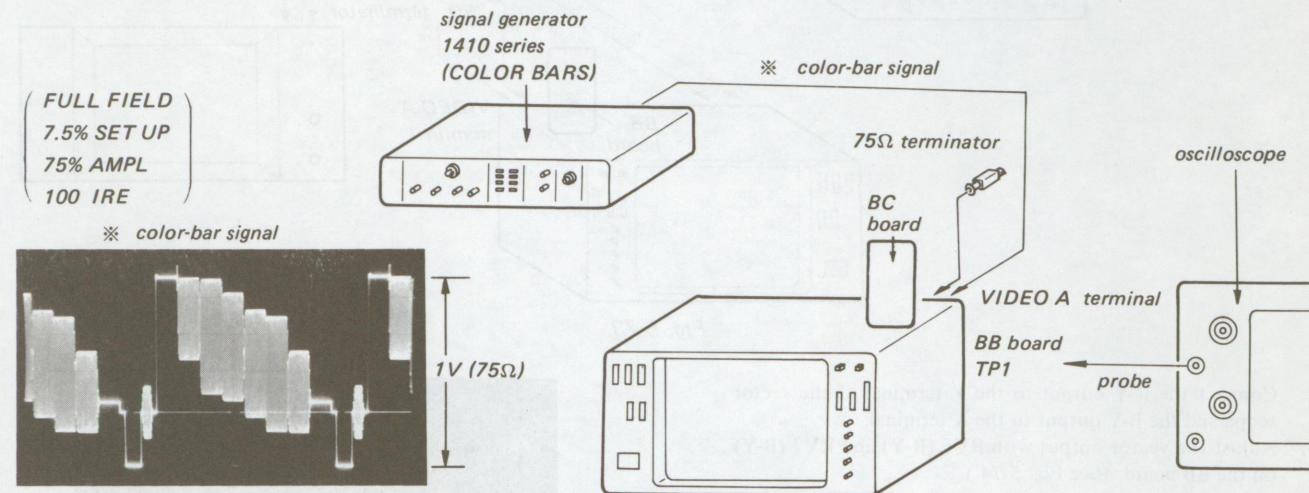

Fig. 5-78.
1. Complete the connections as shown in Fig. 5-78.